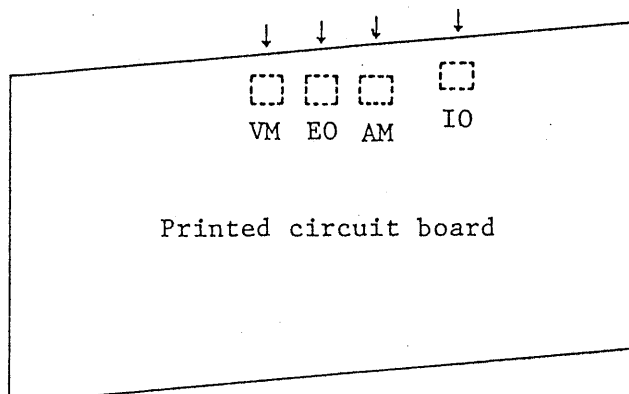

Figure 5-1
- (b) Turn the voltage controls fully clockwise, switch the voltage control selector to positions "I" and "II" alternately, and adjust, as below, the semi-fixed resistors with respect to the lower output voltage. If the meter pointer deflects over the scale, appropriately adjust the output voltage with calibration resistor E0. For adjusting parts, see Figure 5-1.
(1) Adjustment of voltmeter
Connect a voltmeter to output terminals, and set the output voltage to 20 V. Adjust the semi-fixed resistor VM in Figure 5-1, so that an output voltmeter of the Model PAF20-1 indicates 20 V.
Set the voltage range selector to the 10 - 20 V range, and turn the output voltage control knob counterclockwise to its extreme position. Then adjust the output voltage to 20.5 V by tuning the semi-fixed resistor E0 in Figure 5-1.
Set the ammeter range selector to the 1 A range. Connect a load to output terminals, and decrease the value of the load resistance. Adjust the semi-fixed resistor IO in Figure 5-1, so that the indication of ammeter increases up to approximately 1.15 A with decrease of the value of the load resistance, and then it decreases.